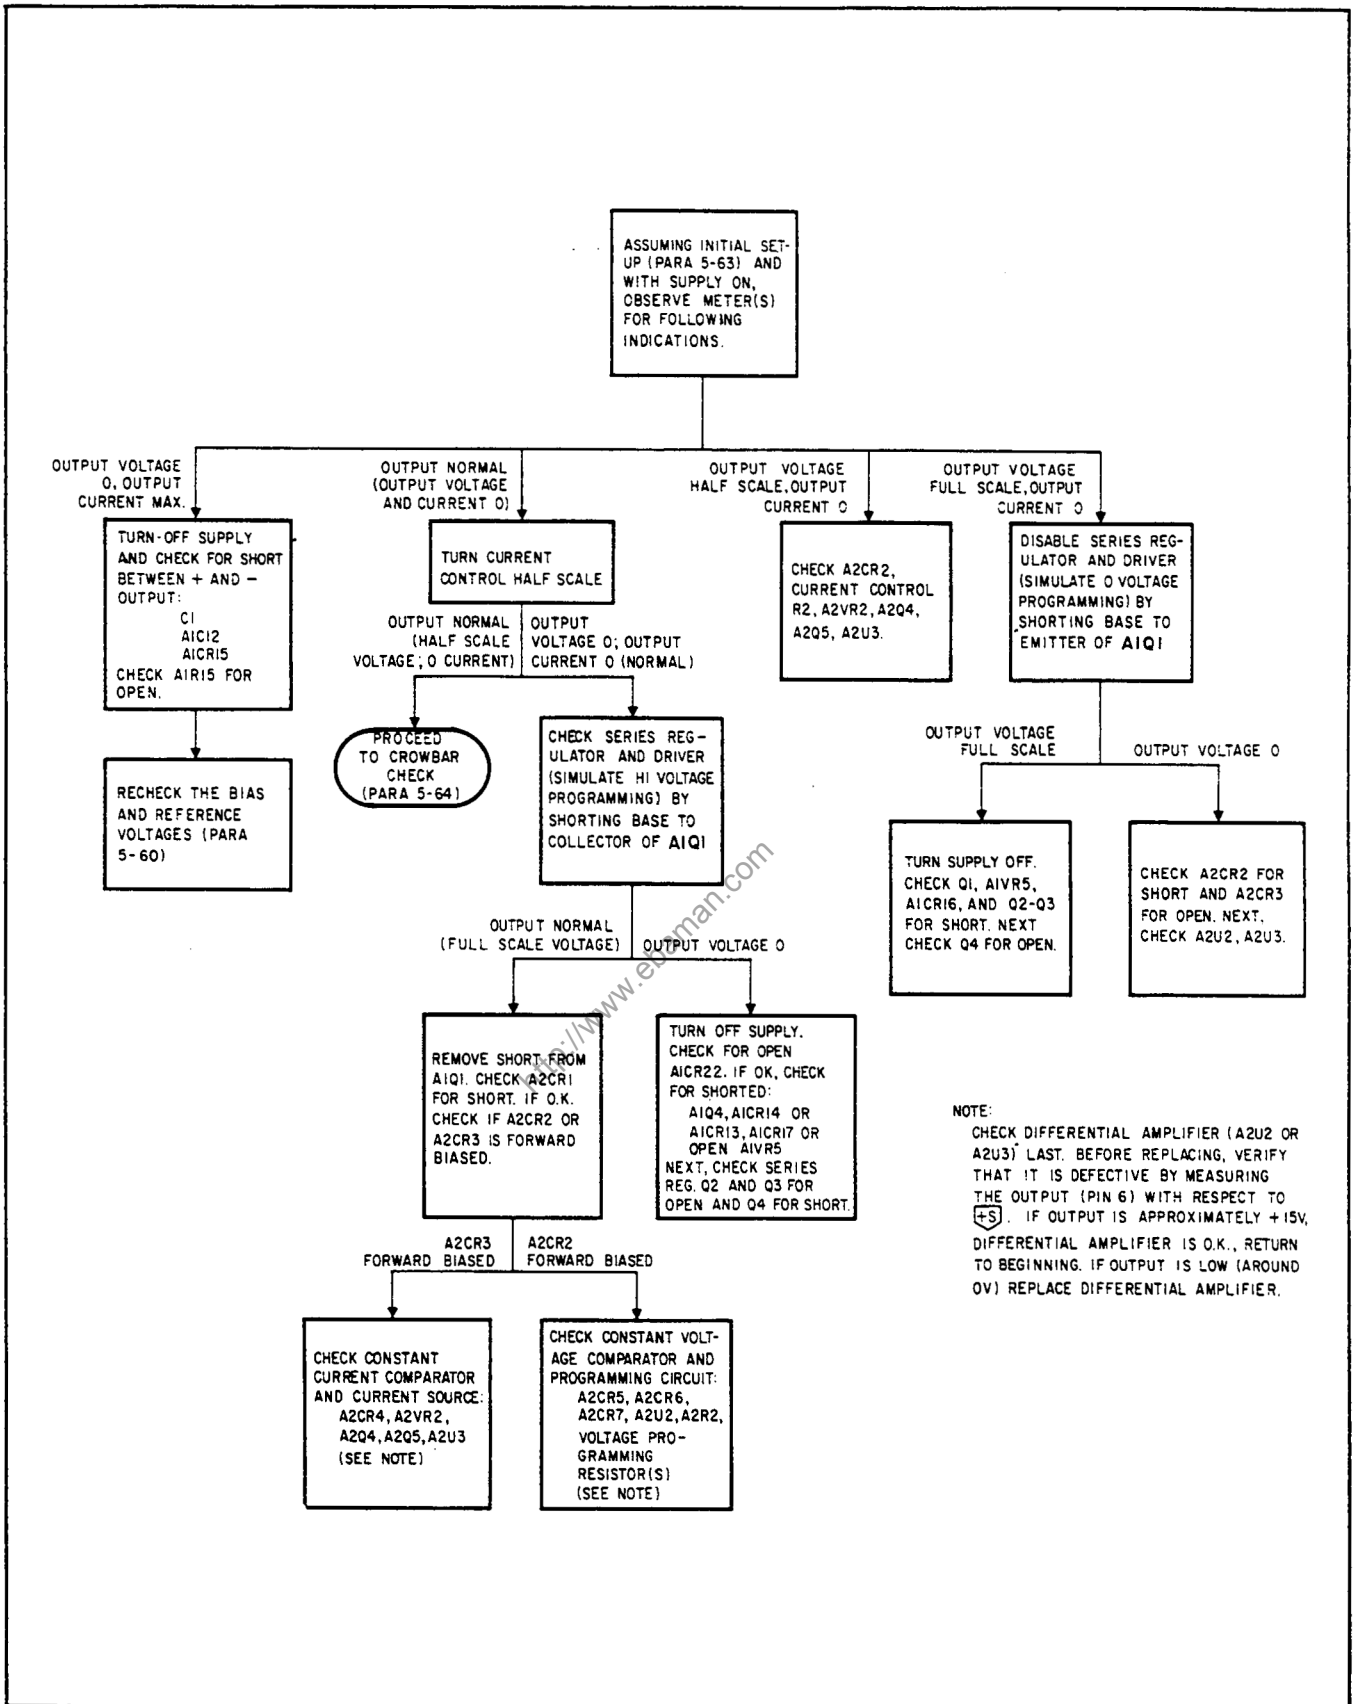

Figure 5-12. Major Problems, Troubleshooting Tree
5-63 Figure 5-12 is a troubleshooting tree organized according to trouble symptoms that indicate the supply has a major fault. The troubleshooting tree assumes that the power supply is initially
3. The OVERVOLTAGE control is set maximum clockwise and the crowbar either did not trip when power was applied or, if it did, it was disabled (A1R34 disconnected, see Paragraph 5-59, step f). With the above initial conditions established, proceed to the troubleshooting tree, Figure 5-12.
5-67 Assuming the initial troubleshooting procedures (Paragraph 5-59) and the major problem troubleshooting tree (Figure 5-12) have not helped in isolating the problem, check the output current capability of the supply using the following procedures: